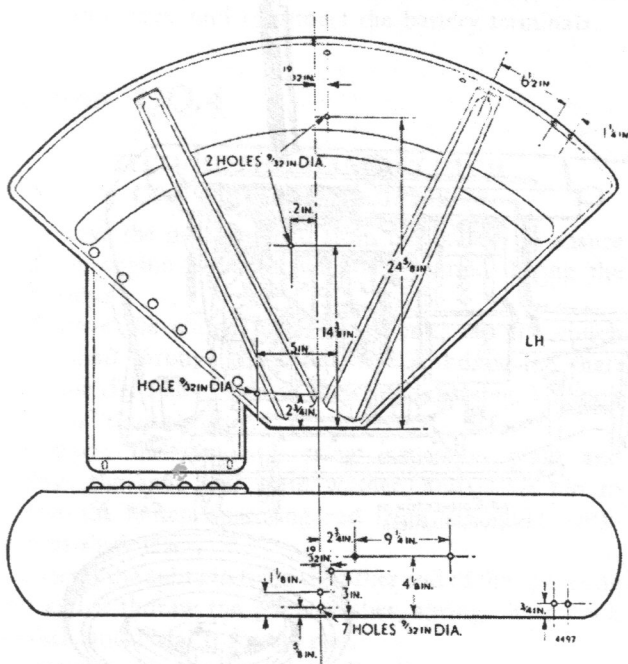

Fig. QQ.2
- (1) Left-hand wing: Drill 10 $\frac{3}{32}$ in. (7.14 mm.) diameter holes in the positions shown in Fig. QQ.2.